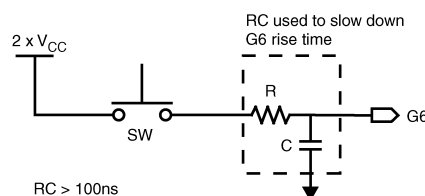

Figure 15. Circuit Diagram for Implementing the $2 \times V_{CC}$
4. After V_{CC} is valid and stable, connect a voltage between $2 \times V_{CC}$ and $V_{CC}+7V$ to the G6 pin. Ensure that the rise time of the high voltage on G6 is slower than the minimum in the Electrical Specifications. Figure 15 shows a possible circuit dliagram for implementing the $2 \times V_{CC}$. Be aware of the typical input current on the G6 pin when the high voltage is applied. The resistor used in the RC network, and the high voltage used, should be chosen to keep the high voltage at the G6 pin between $2 \times V_{CC}$ and $V_{CC}+7V$.